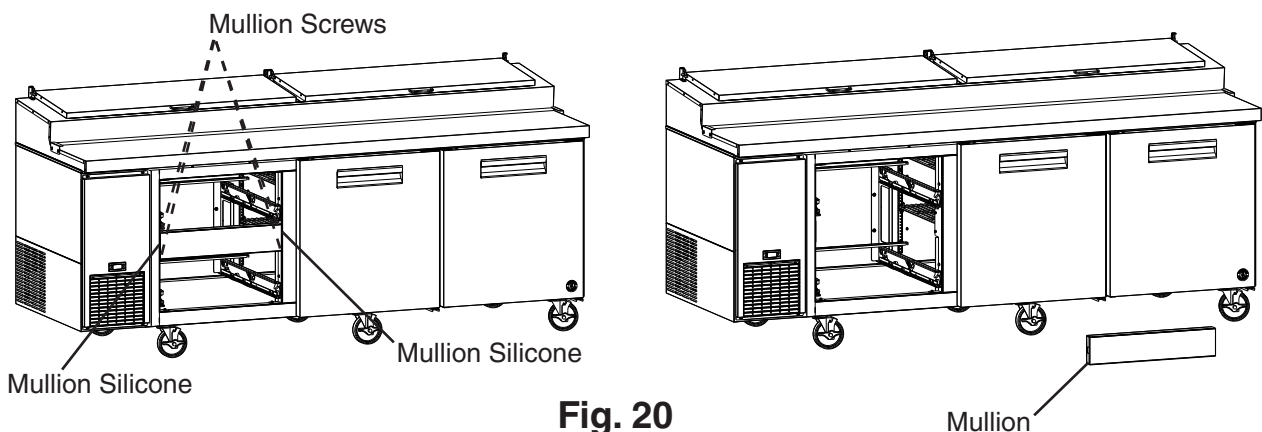

Fig. 20
- 3) Remove the 4 mullion screws, then cut the front mullion silicone loose and remove the mullion. See Fig. 20.